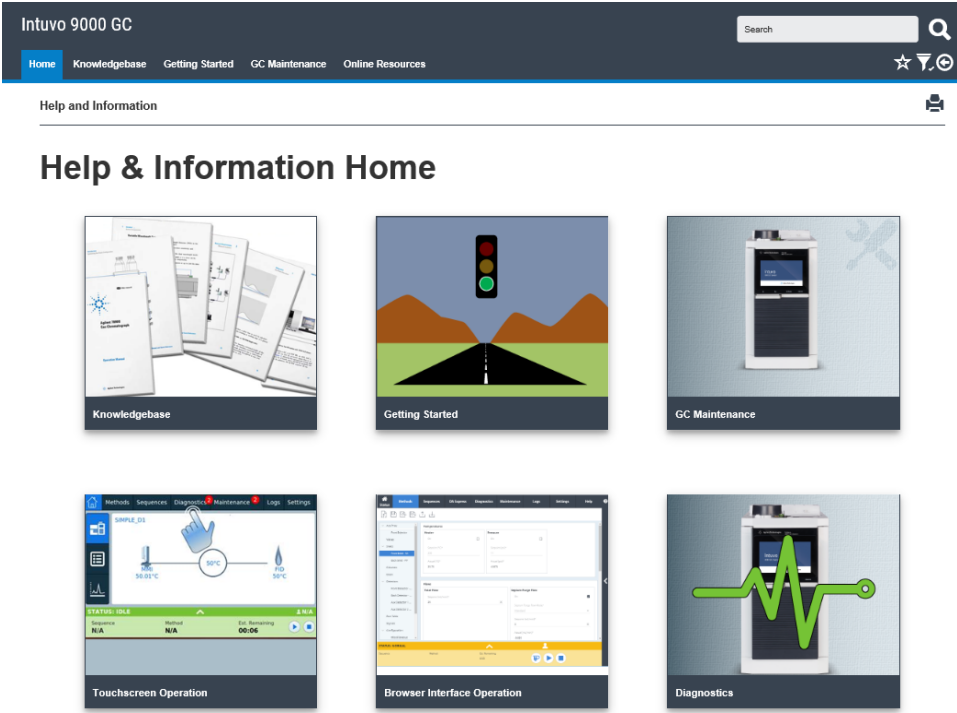

Figure 4 Intuvo Web Help - Help & Information Home
- 4 Press Enter. The Intuvo Web Help launches in the browser. See Figure 4.